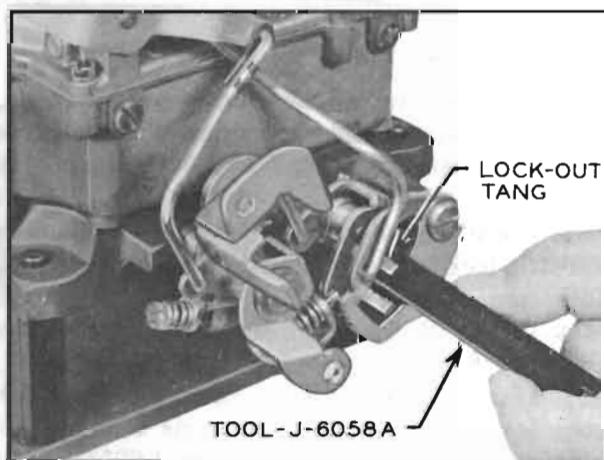

Figure 3-87—Adjusting Secondary Lock-Out
7. If clearance between tang and lock-out step is not correct, bend tang as required to obtain this clearance using Tool J-6058A. See figure 3-87.